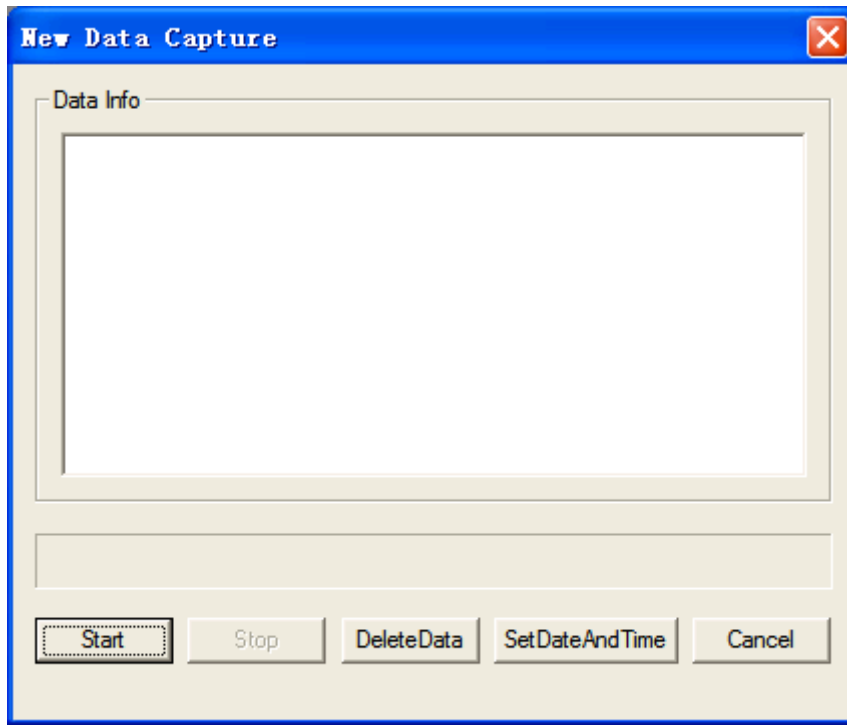
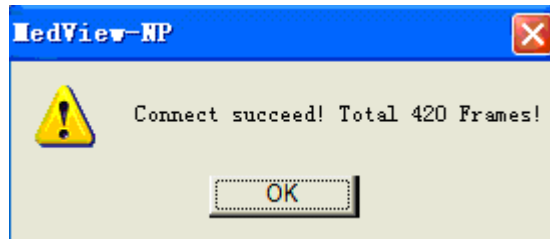
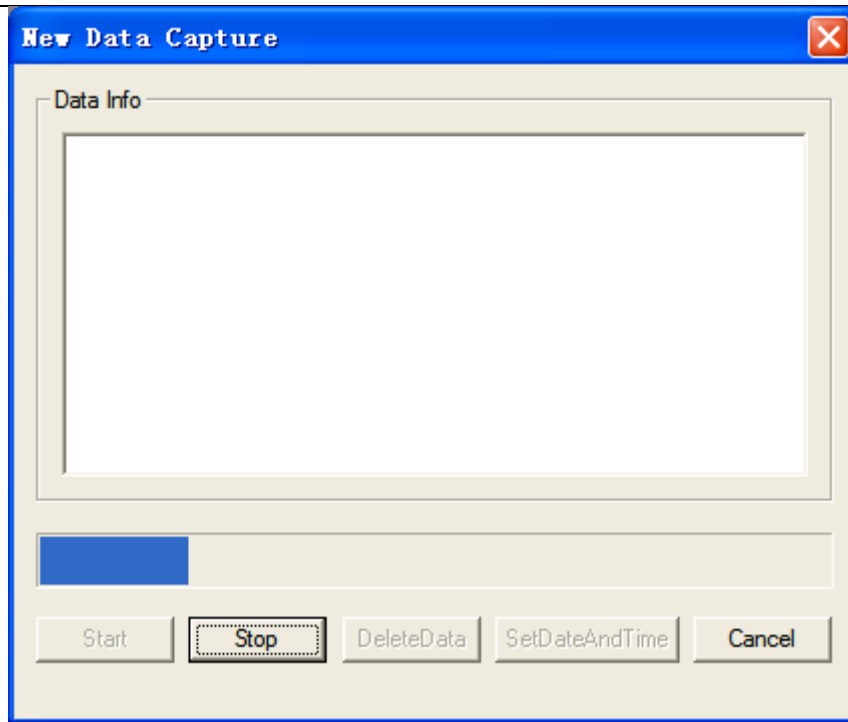

Figure 3-3
Figure 3-4
Figure 3-5
3.1.4 Click “Start” button, in Figure 3-3 then an interface will appear as shown in Figure 3-4, This action aims at the device that cannot upload data automatically, such as MD300I、 MD2000B and MD300K3.
3.1.5 When the device that can transmit data is well connected to the computer, you will see the window as shown in Figure 3-4, Click “OK” button, then the data starts transmit. The interface as shown in Figure 3-5.
Definitions of Functional buttons in fig.3-5: